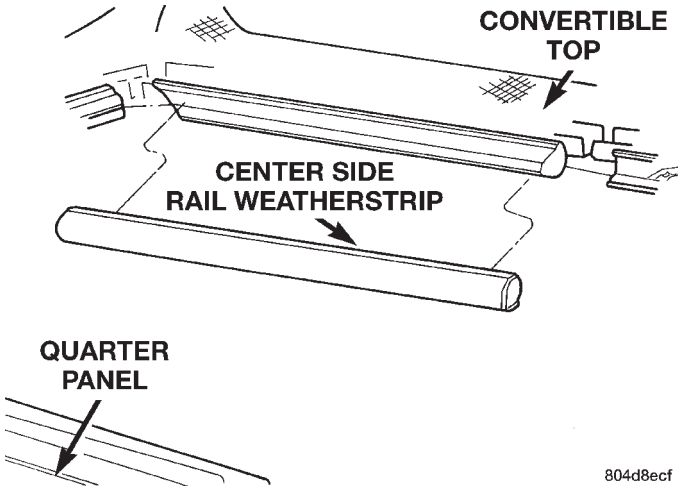

Fig. 44 Center Side Rail Weatherstrip
- (1) Partially raise convertible top.
- (2) Using a trim stick, special tool C-4755, separate one end of weatherstrip from retainer channel.
- (3) Separate weatherstrip from vehicle (Fig. 44).